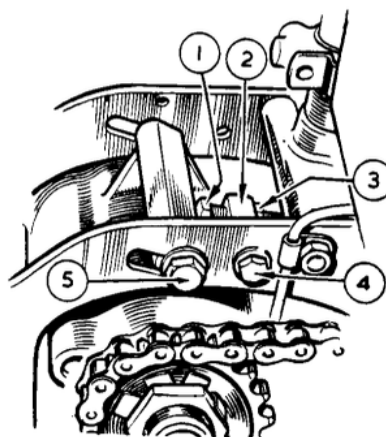

FIG. 38
The arrangement used to adjust the front chain on this model is shown in fig. 38. Remove the inspection cap on the front chaincase. Slacken the nut (5) on the right side engine plate. Slacken the nut (3). Screw in the bolt (1) into the crosshead to take up slack in the chain—press hard on the bottom run of the rear chain to tighten the front one, the correct chain whip is $\frac{1}{2}$ ". Check in several positions—adjust for tightest point. When the correct adjustment is made tighten nuts (3 and 5). Should the front chain be tight—screw the bolt (1) out of the crosshead. Check rear chain adjustment after dealing with the front one.